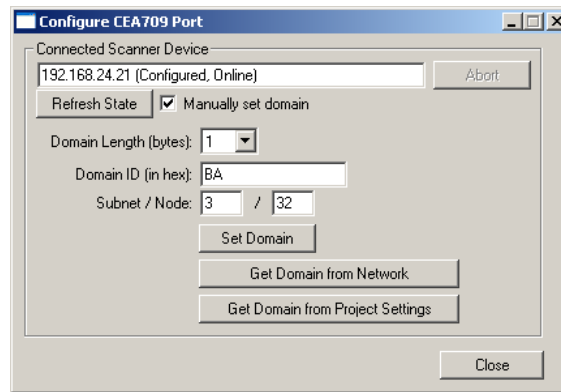

Figure 81: Configure CEA-709 port dialog.
4. If the device has not been installed with a network management tool (e.g. LNS-based tool), press the **Configure CEA709 Port** button. This opens the device install dialog as shown in Figure 81.